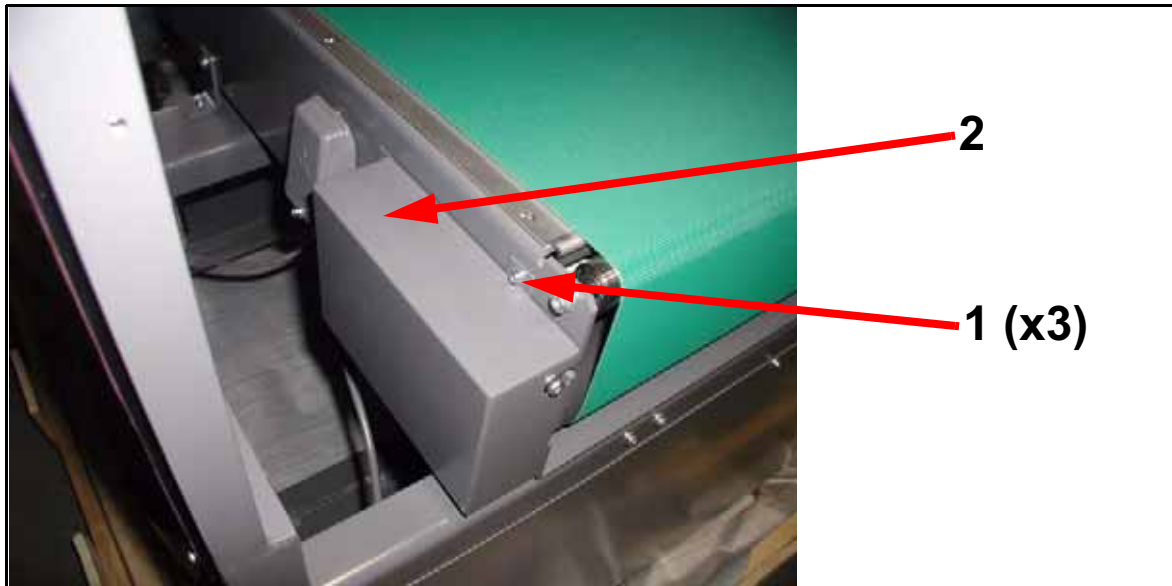

Figure 6-15. Exit Conveyor Drive Chain Cover
- 2 Unscrew cover screws (1 in Figure 6-15) and remove cover (2).